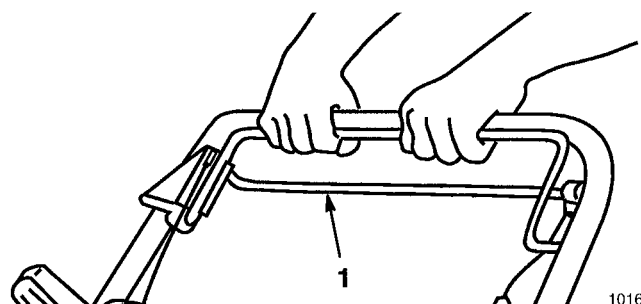

Figure 15
2. To disengage self-propelled drive, release self-propelled bail (Fig. 15).